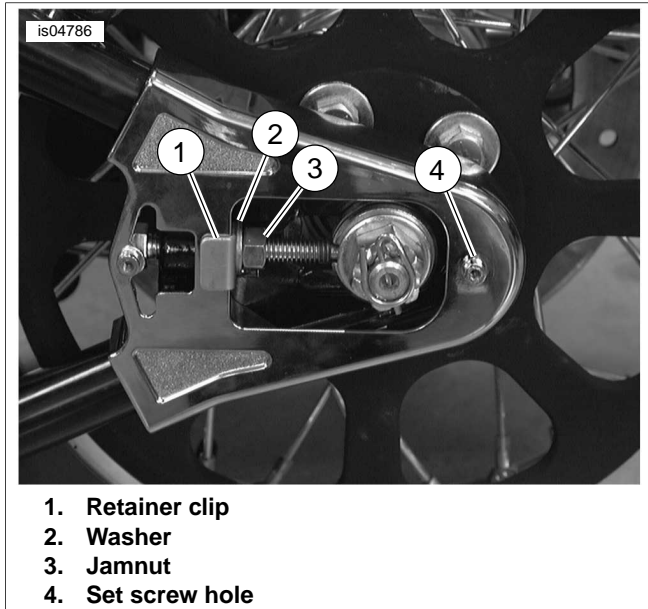

Figure 2. Installing Axle Cover Base
3. See Figure 2. Slide axle cover base over the rear of the swingarm. Locate retainer clip (1) and tighten jamnut (3). Keep pressure on axle cover base with hand while tightening the jamnut to keep the base close to the down tubes.